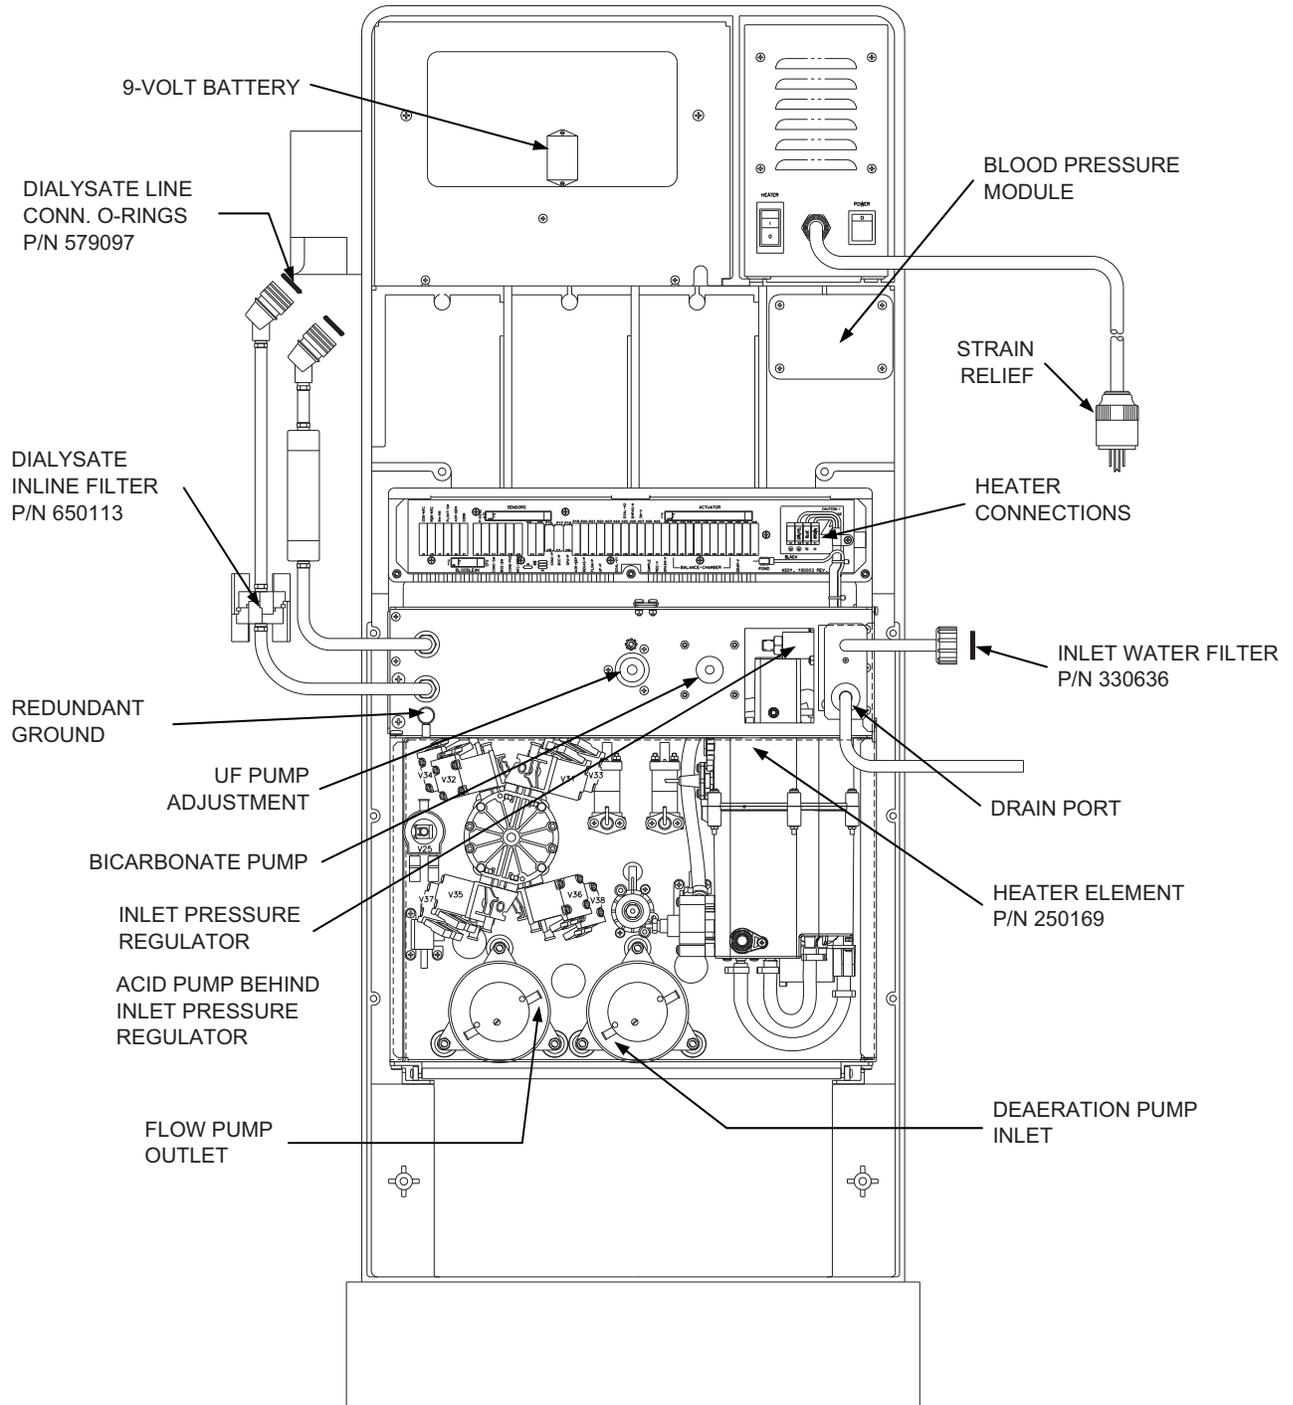

Figure 3. Fresenius 2008K² Hemodialysis System, Rear View.
1. Inlet Water Filter in the inlet connector of the water supply (See Figure 3, pg. 9).
3. Dialysate Inline filter (See Figure 3, pg. 9).
4. Replace o-rings in the Dialysate Line Connectors (See Figure 3, pg. 9).
1. Remove power from the machine then check and tighten the 8-pin heater connections on the distribution board (See Figure 3, pg. 9). Check heater block AC connections for signs of arcing or melting.
5. At the strain relief, locate the black, white and green wires from the power cord (inside the power supply chassis). Follow the black and white wires to the main power switch. Attached to the main power switch are four (4) wires (2 black and 2 white). Look for loose connections, cracked insulation, and signs of overheating, such as discolored or melted insulation. Replace wires with power supply wire kit (Fresenius part number 190411).
7. With a digital multimeter, measure the resistance between the round (ground) pin on the power plug and the redundant ground terminal on the machine (See Figure 3, pg. 9). Verify that the resistance is less than 0.2 ohm. If the value is above 0.2 ohm, measure the internal resistance of your meter by shorting the leads together, then subtract this value from the resistance measured between the power plug ground pin and the redundant ground terminal on the machine to obtain the true ground resistance.